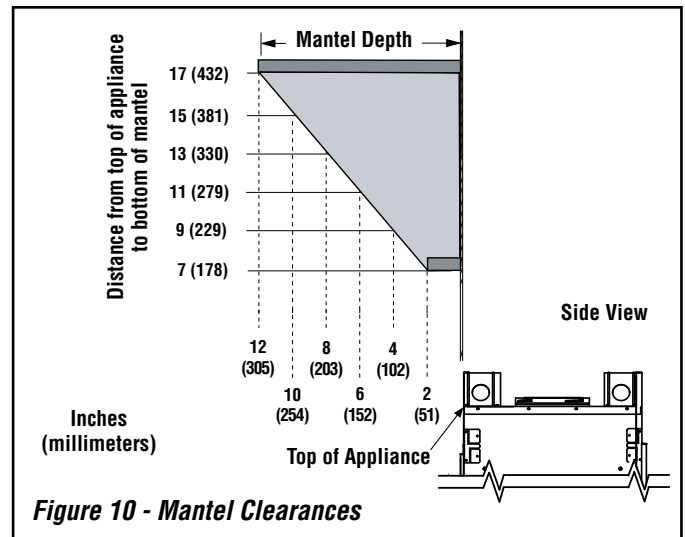

Figure 10 - Mantel Clearances
- Vertical installation clearances to combustible mantels vary according to the depth of the mantel (see **Figure 10 on Page 14**).
- In addition, when the unit is recessed, the side walls surrounding the unit must not extend beyond the front edge of the unit (see **Figure 10**).
Vertical installation clearances to combustible mantels vary according to the depth of the mantel (see **Figure 10**). Mantels constructed of non-combustible materials may be installed at any height above the appliance opening.